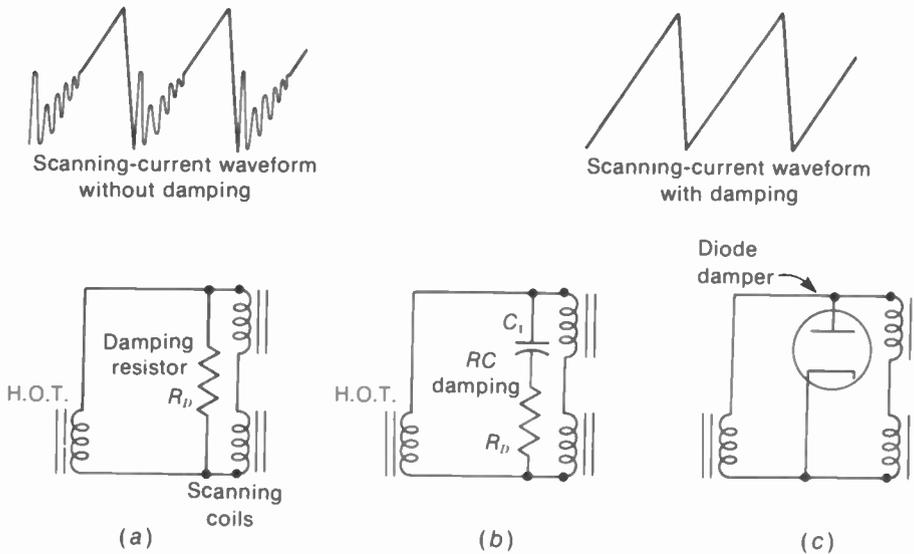

FIGURE 22-8 METHODS OF DAMPING: (a) SHUNT RESISTOR; (b) RC CIRCUIT; (c) DIODE DAMPER.
**Damping methods.** The undesired oscillations can be eliminated from the linear rise on the sawtooth wave by connecting a damping resistance  $R_d$  in parallel with the scanning coils as shown in Fig. 22-8. Because of its low value, which is about  $1,000 \Omega$  or less,  $R_d$  lowers the  $Q$  of the output circuit, reducing the amount of self-induced voltage. With just a simple resistance for damping, however, some of the scanning current is shunted through the parallel resistor. By the insertion of a capacitor  $C_1$  in series with  $R_d$ , as in Fig. 22-8b, the scanning current can be prevented from flowing through the damping resistor while the high-frequency oscillations are damped out.